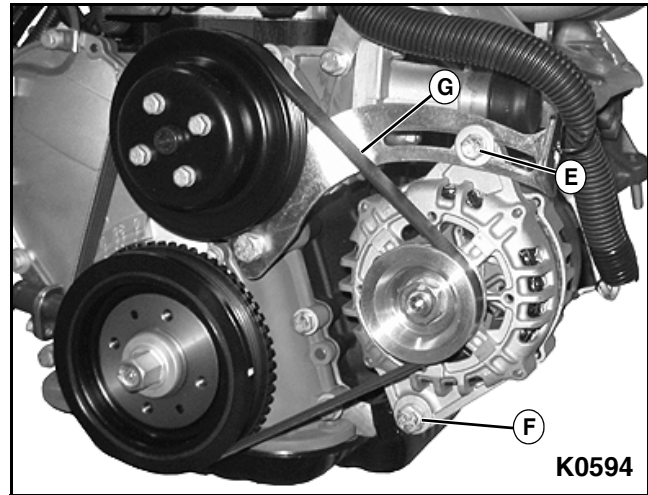

Figure 3-19
4. Tighten upper alternator mounting bolt (E), then tighten lower alternator mounting bolt (F). See Figure 3-19.
5. Check the drive belt tension at the midpoint (G) between the pulleys.